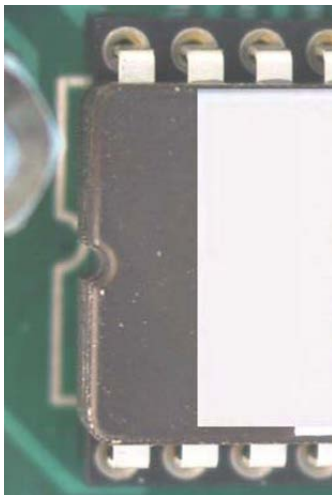

Figure 3: Correct EPROM alignment
2. After taking proper ESD precautions, gently pry the original EPROM free of the terminal lead sockets with an appropriate IC extraction tool. Refer to Figure 3.